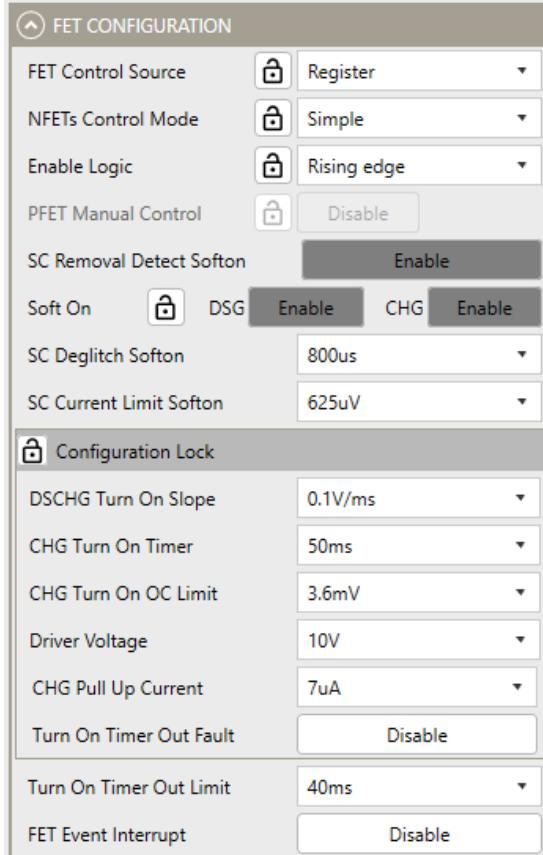

Figure 11: FET Configuration
7. Configure the FET (see Figure 11).